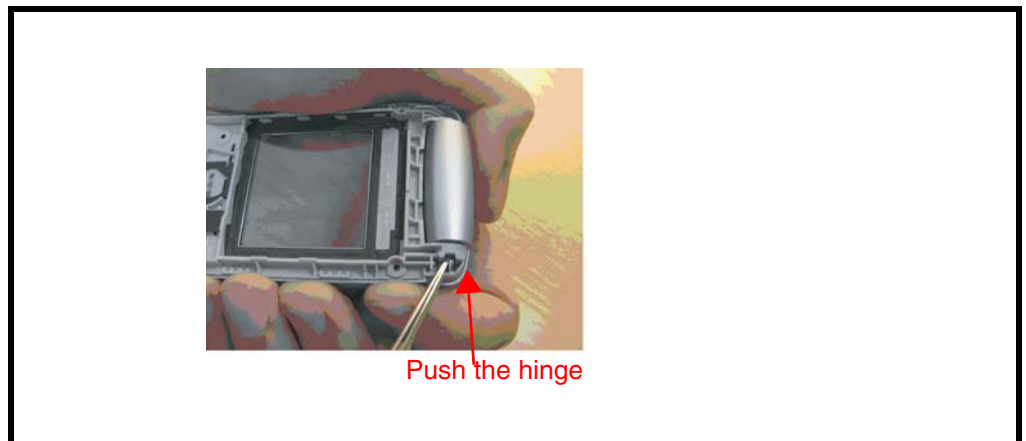

Figure 41. Removing the hinge
2. Push out the hinge to disassemble Case-B and Case-C with tweezers as shown in Figure 41.